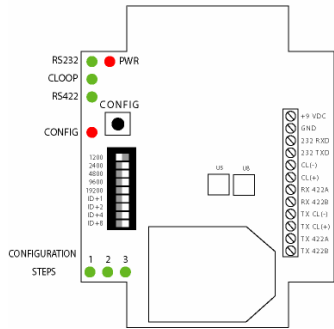

Figure 2 – Transceiver XT100
- To transmit RS422 with the transceiver move chip in U5 to U8 (See figure 2)